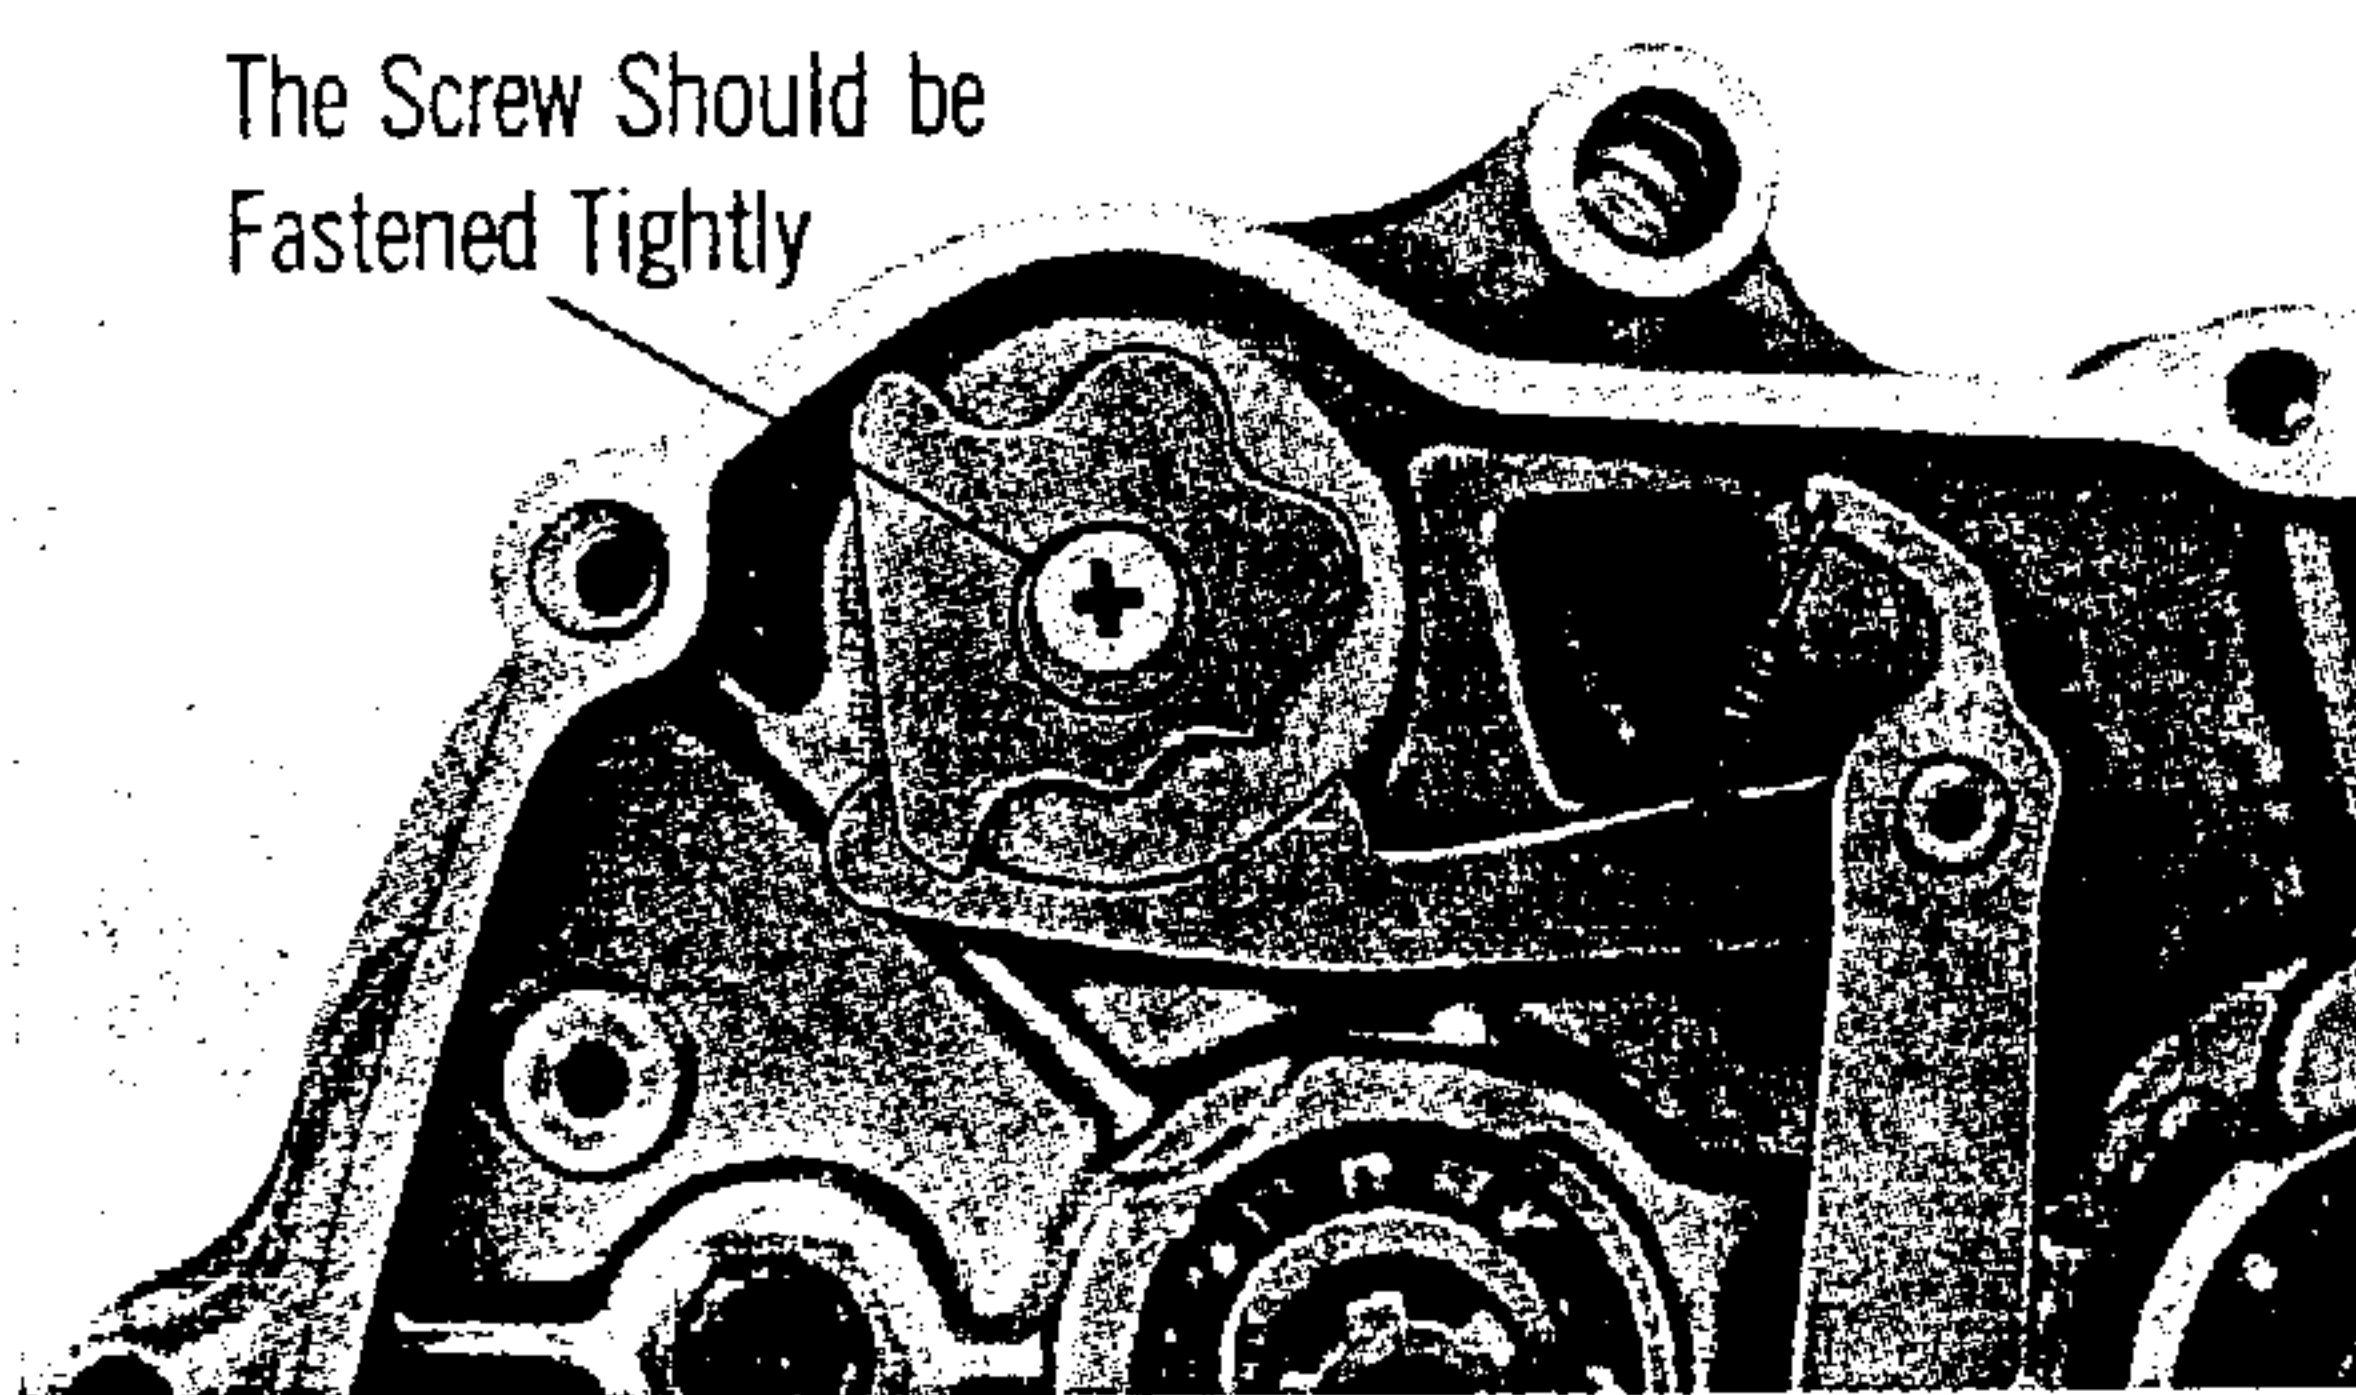

Fig. 53
2. Apply screw locking agent to the stopper Plate fixing screw (Fig. 53).